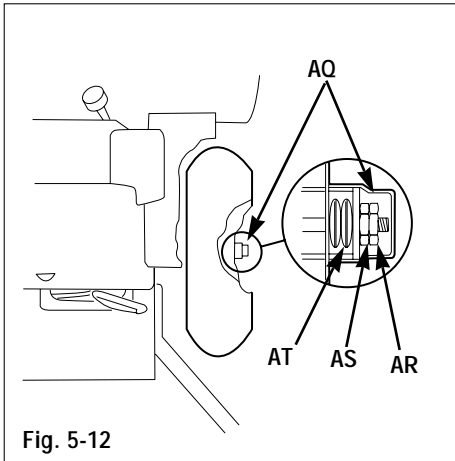

Fig. 5-12
1. On right side of unit, remove hub cap (AQ, Fig. 5-12) at end of wheel axle shaft. Remove outer (AR) and inner jam nuts (AS) and both pairs (four single disk springs) of disk springs (AT). Inspect springs and replace them if they are worn.
2. Reinstall disc springs (AT) and inner jam nut (AS). Tighten jam nut (AS) by hand until it contacts the disc spring, then tighten (AS) 1 to 1-1/4 turns more. DO NOT force nut more than 1-1/4 turns or differential will not work.
3. Secure the inner nut (AS) in place, while tightening the outer nut (AR).
4. Reinstall cover (AQ).